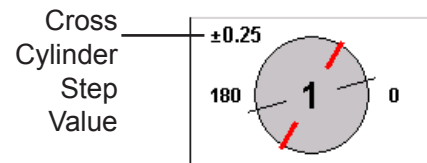

Figure IS-4 Step Value
1. The default setting is ± 0.25 D. Refer to Figure IS-4.